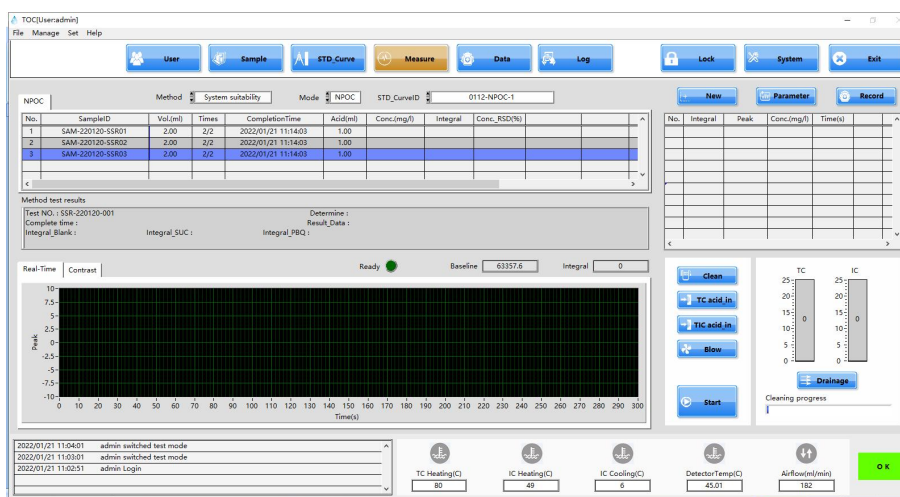

Fig 4.83
Step 3: Click 'OK' and create successfully, then the sample information will be shown in the test progress list (Fig. 4.83).